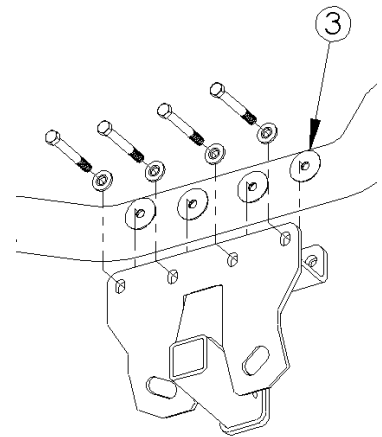

FIGURE 2
- If there is excessive gap between the vertical surfaces of the hitch and the bumper structures, flat washers should be used as shims. They can be held in place using cellophane tape. See Figure 2.